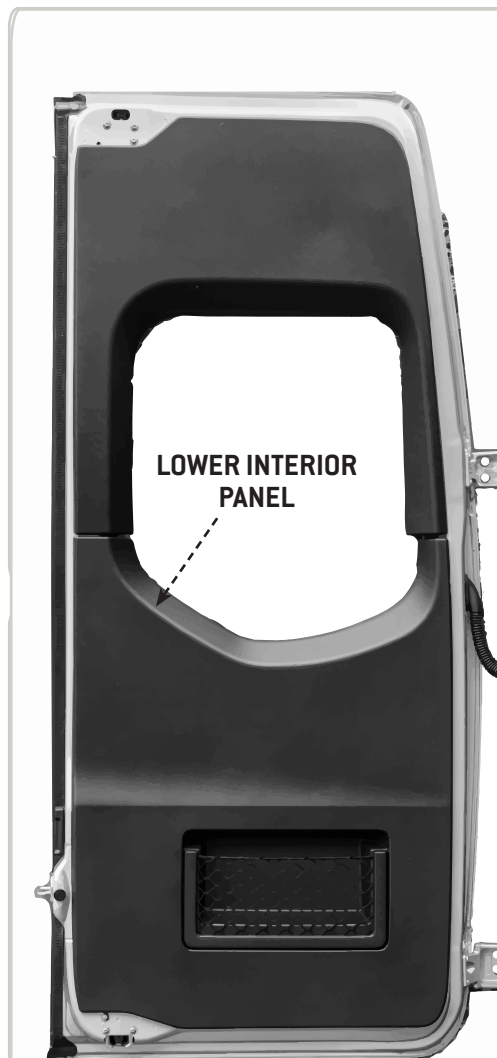
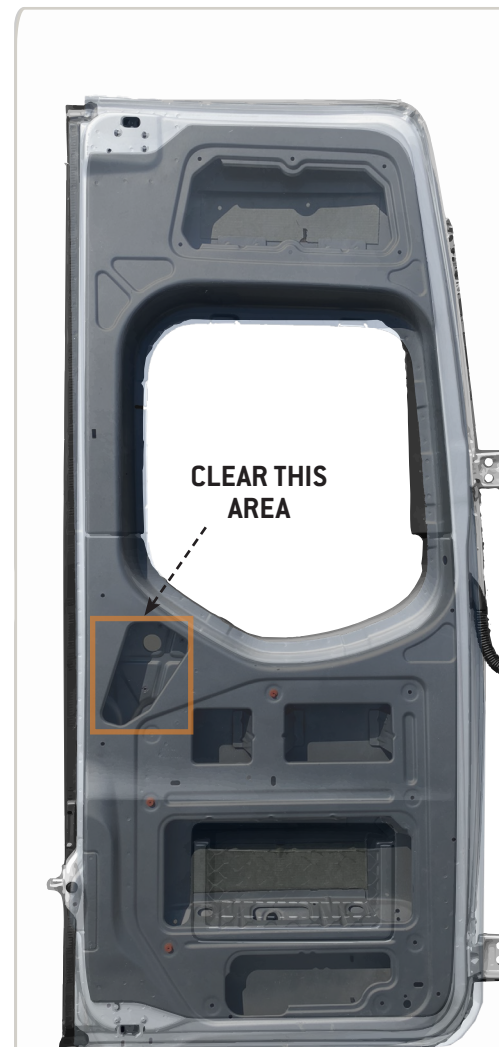

FIG 1
FIG 2
1.1 Door Panel Removal: If applicable, start by removing the lower interior door panel (**FIG 1**) and any obstructions in the area shown in **FIG 2** (wires, insulation, etc.). We recommend using plastic panel removal tools (easily found at harbor freight or similar). Be gentle when prying as to not break the factory panel clips. Once you get the first few popped you should be able to pull it the rest of the way with your hands.
NOTE- You may have any number of different door configurations- stock full trim (**Pictured FIG 1**), stock half trim, stock panel, upholstered wood, etc. Each require their own removal method. Please note that the panel-style trimmed door requires additional drilling and the use of the provided **panel plug** (**See Step 2.5**).